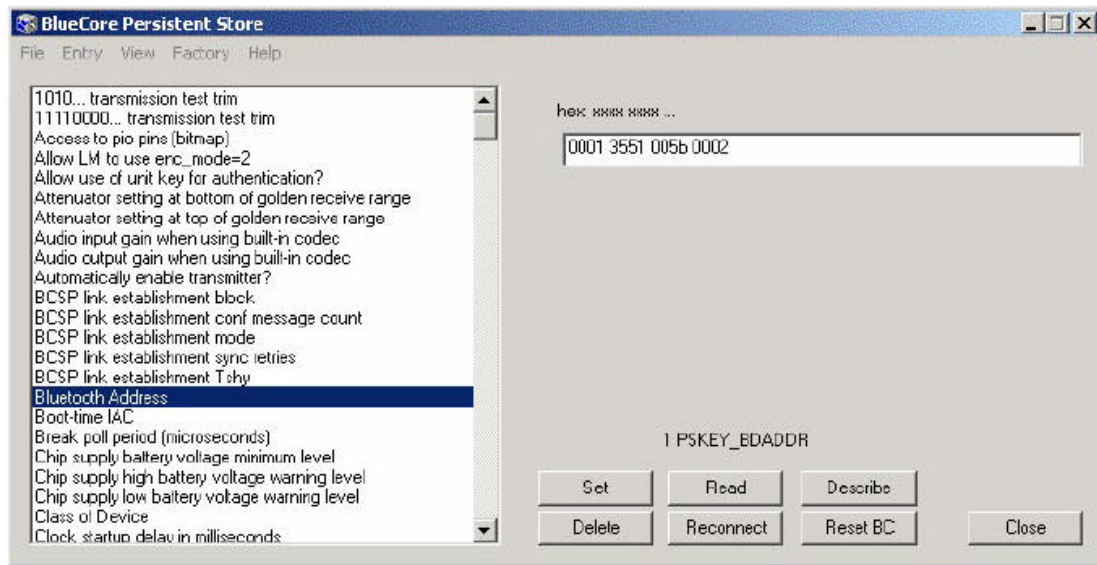

Figure 4.3 : PSTools User Interface
**Merge:** This button opens PS Keys that were saved through **Dump**. See Figure 4.3